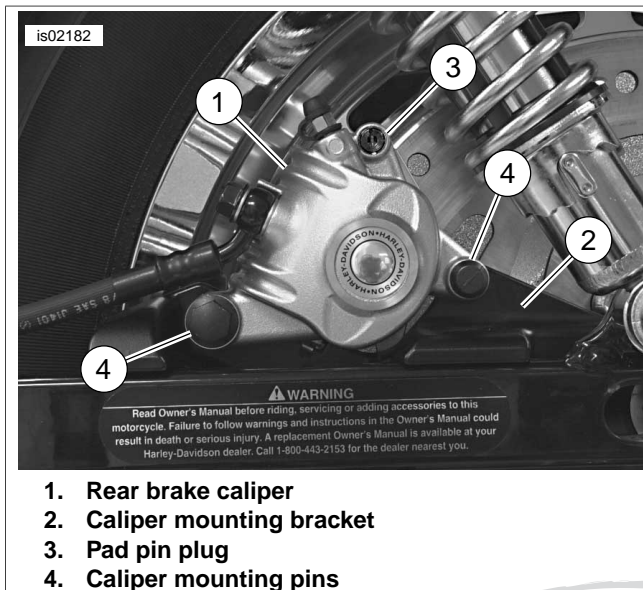

Figure 5. Rear Caliper Assembly
3. See Figure 5. Remove pad pin plug (3).
12. See Figure 5. Install pad pin plug (3). Tighten to 18-25 **in-lbs** (2.0-2.9 Nm).